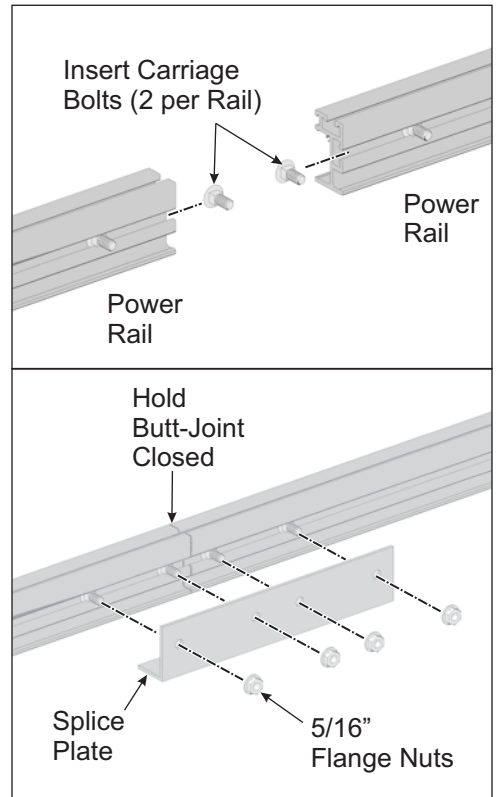

Figure 3-1: Splice Plate Installation
- E. Secure the Splice Plate to Power Rails with two 5/16" flange nuts. **Torque to 14-16 ft.-lbs.** (See Figure 3-1)